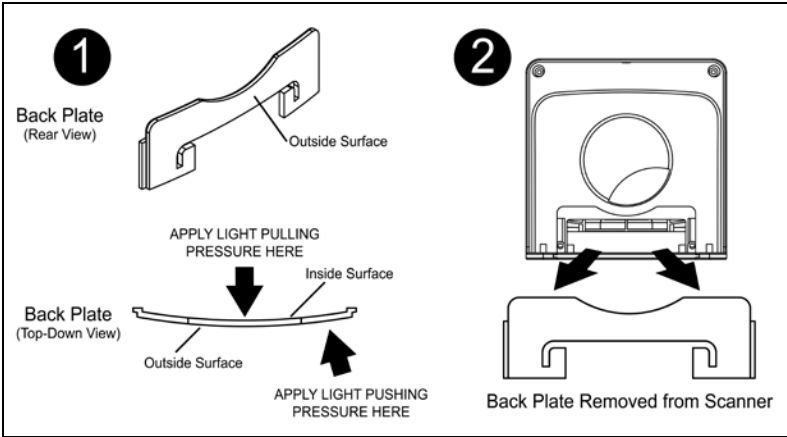

Figure 14. Cable Cover Removal
3. Remove the scanner's back plate from the rear side of the unit. Apply pressure to the points shown in *Figure 14* until the back plate unlatches from the scanner.